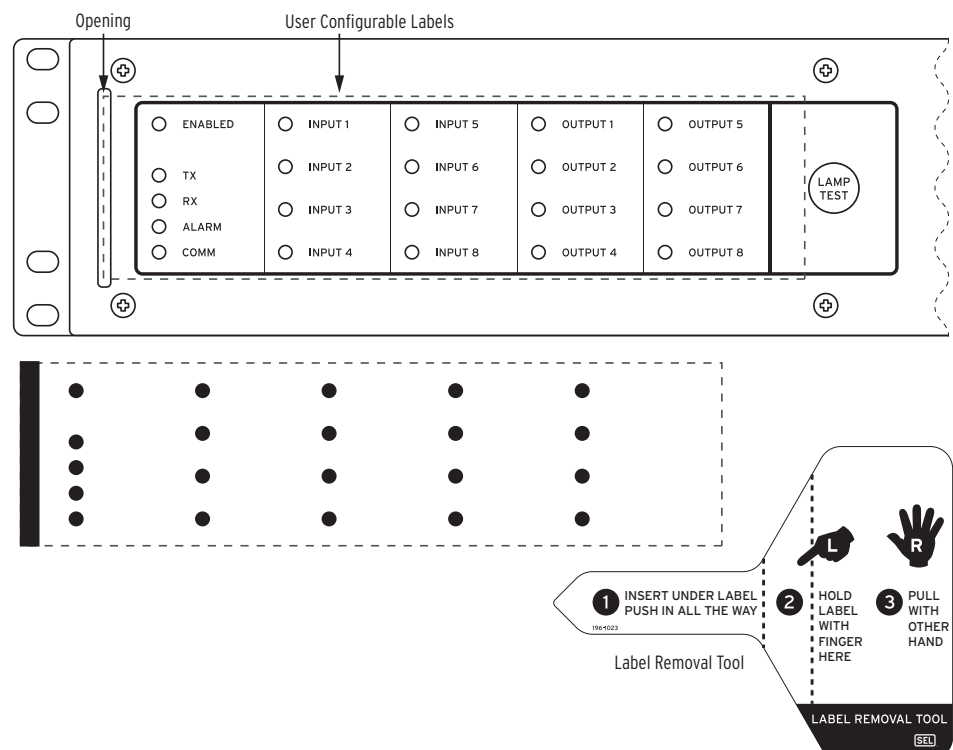

Figure 14 Blank Slide-In Label Set and Label Removal Tool
The blank slide-in label set, shown in *Figure 14*, is included with the SEL-2516.
Included with the relay is the Label Removal Tool, also shown in *Figure 14*. Use this tool to remove labels from the front-panel pockets. Use the procedure in the following steps to remove a slide-in front-panel label:
- Step 2. Slide the tip of the tool under the label at the label pocket opening (see *Figure 14* for opening locations).